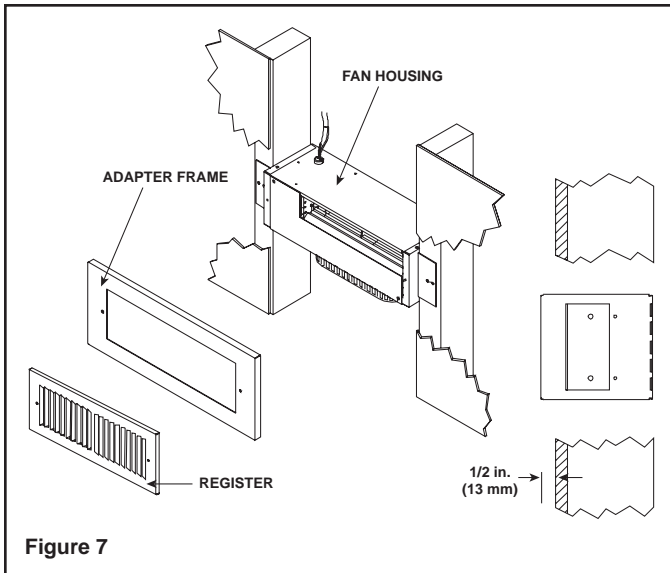

Figure 7
- Screw the register adapter frame and the air register to the fan housing. See Figure 7.